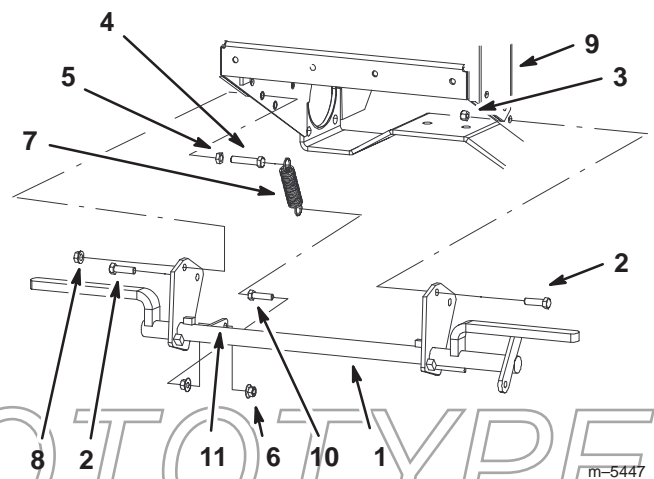

Figure 4
1. Install brake assembly to machine frame with 3 bolts (3/8 x 1-1/4 in.) and 3 locknuts (3/8 in.) (Fig. 4).
2. Install lower bolt (5/16 x 1-1/4 in.) in the brake assembly using two flange nuts (5/16 in.) on both sides of the tab (Fig. 4 and 5).
Note: Install bolt so 2 or 3 threads show out of the flange nut (Fig. 4 and 5).
3. Install spring onto upper bolt (3/8 x 1-3/4 in.) as shown in figures 4 and 5.
4. Install upper bolt (3/8 x 1-3/4 in.) in the brake assembly and machine frame using a flange nut (5/16 in.) and jam nut (5/16 in.) on both sides of the tab (Fig. 4 and 5).
5. Install spring onto lower bolt (5/16 x 1-1/4 in.) as shown in figures 4 and 5.